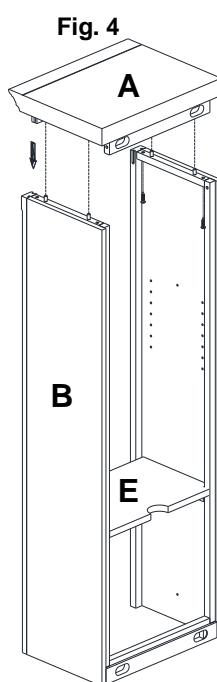

Fig. 4
5. Attach the Top Panel (A) by inserting dowels on the Side Panels (B) into the holes on the Top Panel (A). Insert the Allen Bolts (I) through the holes on the cleat of the Side Panels (B) into the inserts on the Top Panel (A), tighten with the Allen Key (N) as shown in **fig. 4, illustration. 3**.
6. Place Spring Washers (L), Halfmoon Washers (K) onto the Allen Bolts (J) through the holes on the cutout of the front and back rails of the Top Panel (A) into the inserts on the Side Panels (B) as shown in **fig. 4 illustration. 4**.